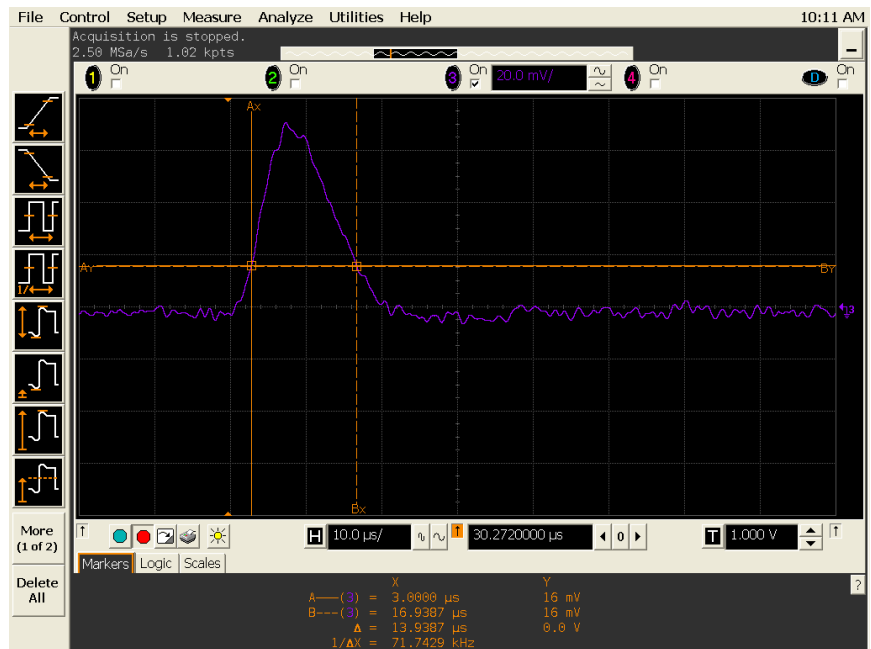

Figure 5-9 Graph of load transient response
- 7 Adjust the oscilloscope to display transients as shown in Figure 5-9. Note that the pulse width ( $t_2-t_1$ ) of the transients at 15 mV from the base line is no more than 50  $\mu$ s for the output.